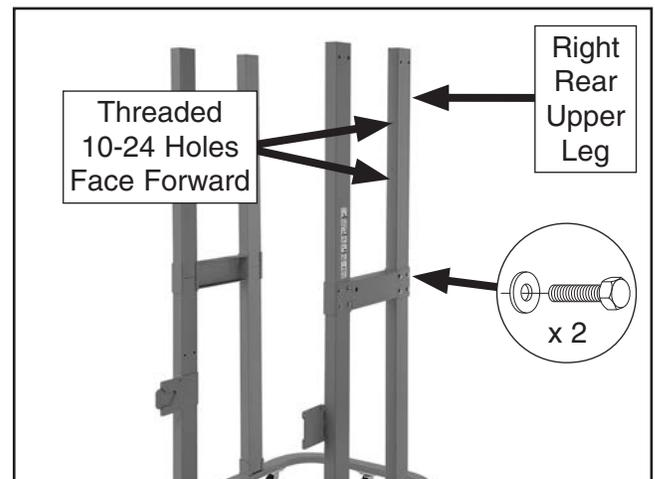

Figure 16. Right rear upper leg installed with 10-24 threaded holes facing forward.
- Place right rear upper leg with two threaded 10-24 holes facing forward in right leg brace, then attach using (2) $\frac{5}{16}$ "-18 x $\frac{3}{4}$ " hex bolts and (2) $\frac{5}{16}$ " fender washers (see **Figure 16**). Finger-tighten for now.